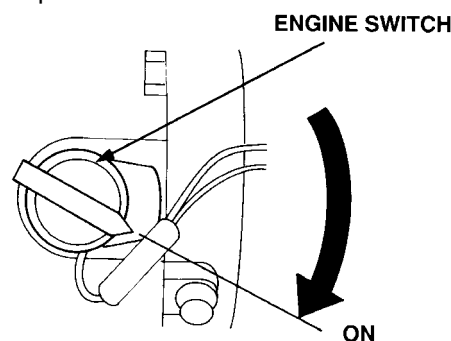

Figure 11. Engine ON/OFF Switch (ON Position)
5. Place the engine **ON/OFF** switch (See Figure 11) in the **ON** position.